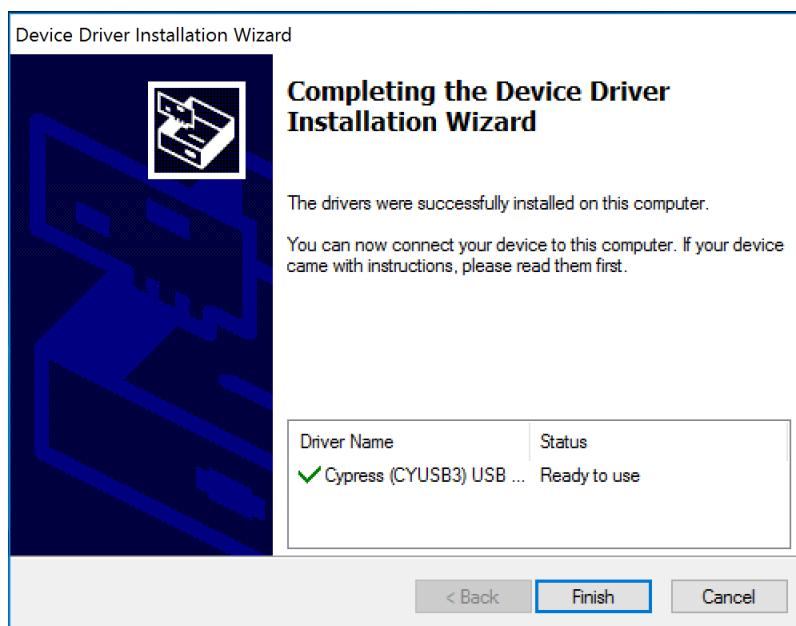

Figure 29. HSDC Pro Install (Continue Driver Installation)
9. Click *Finish* to continue installation, as shown in Figure 29.